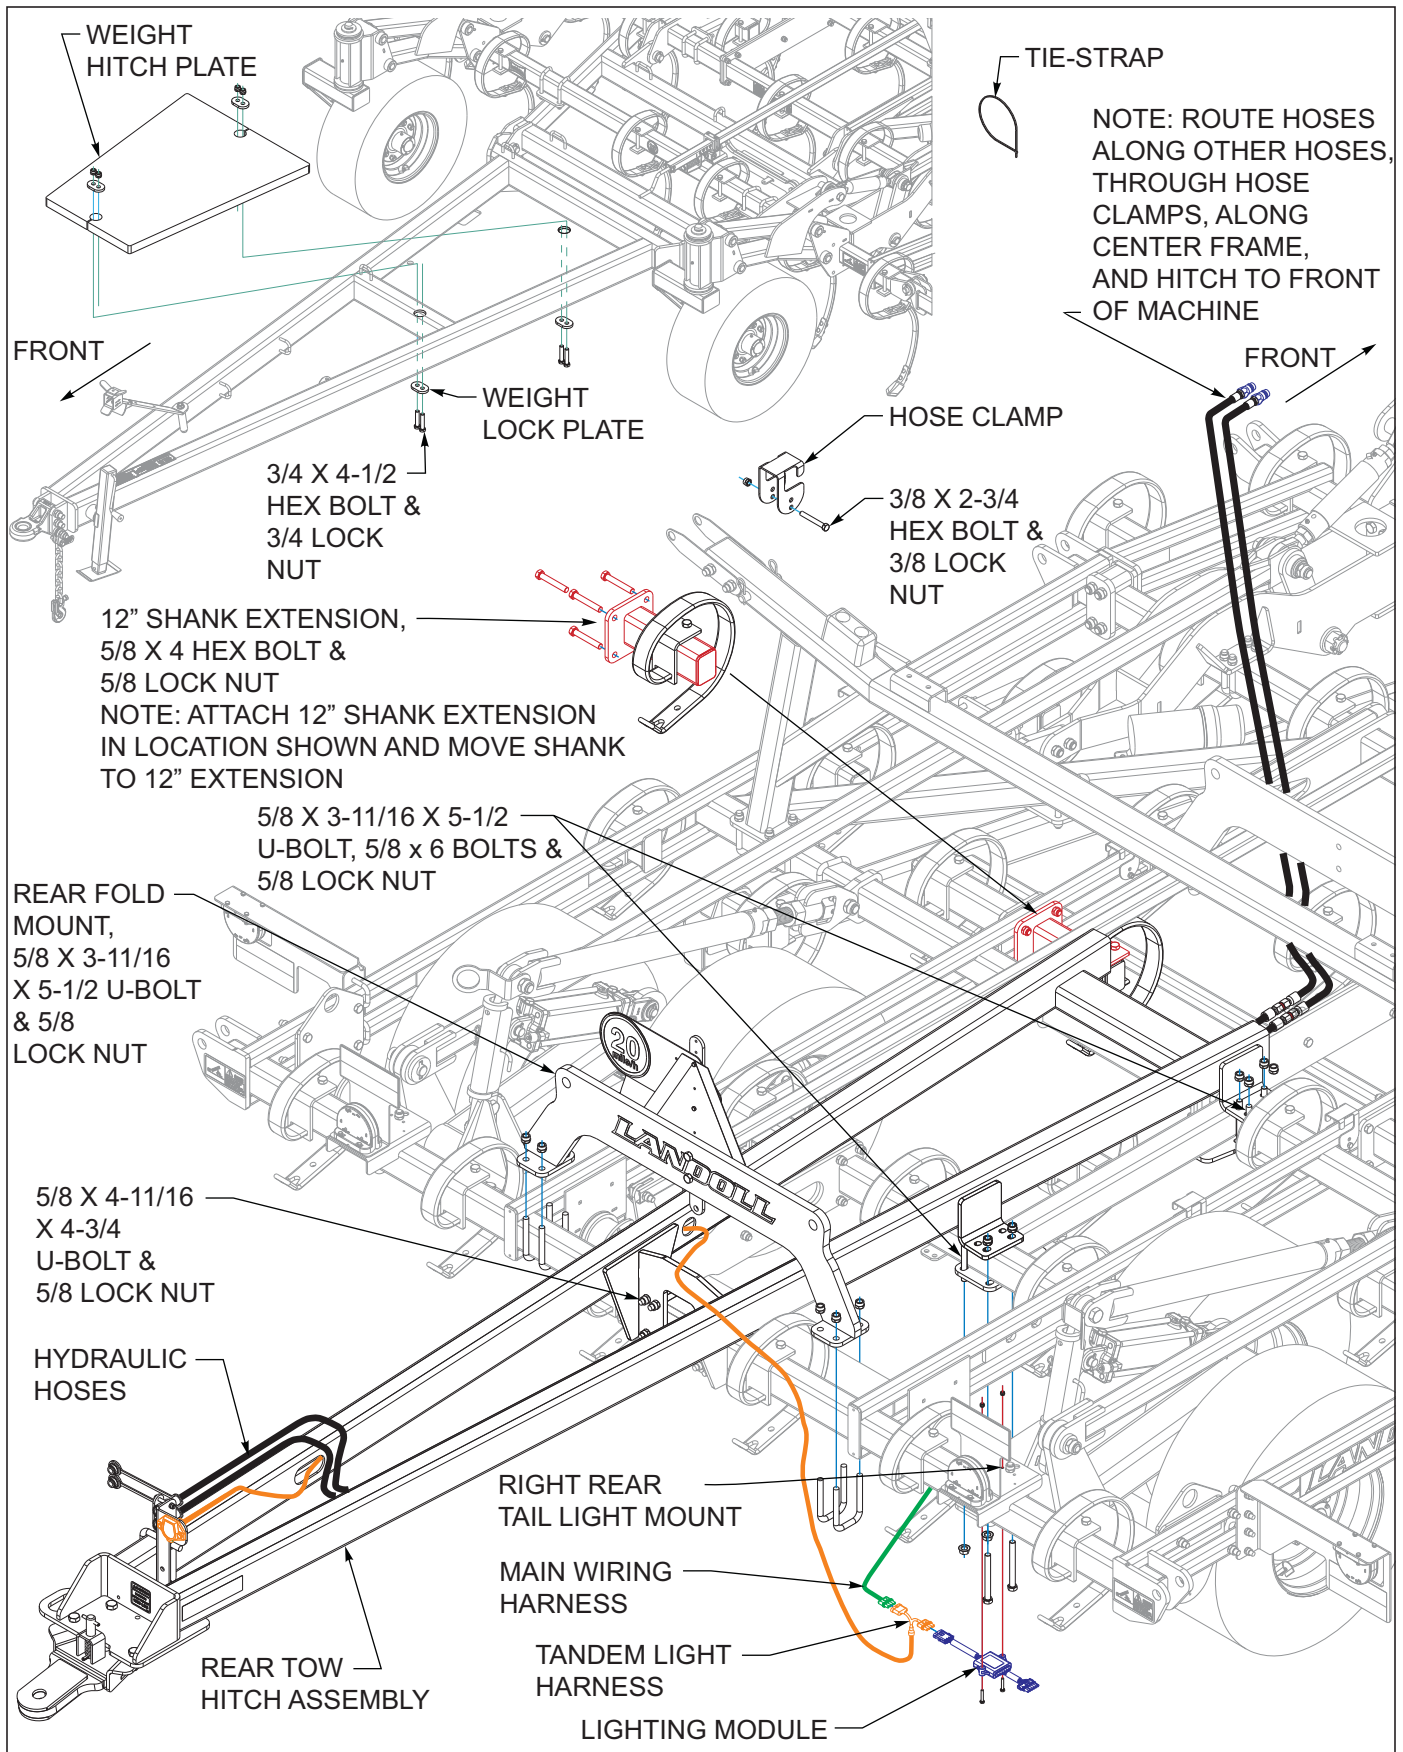
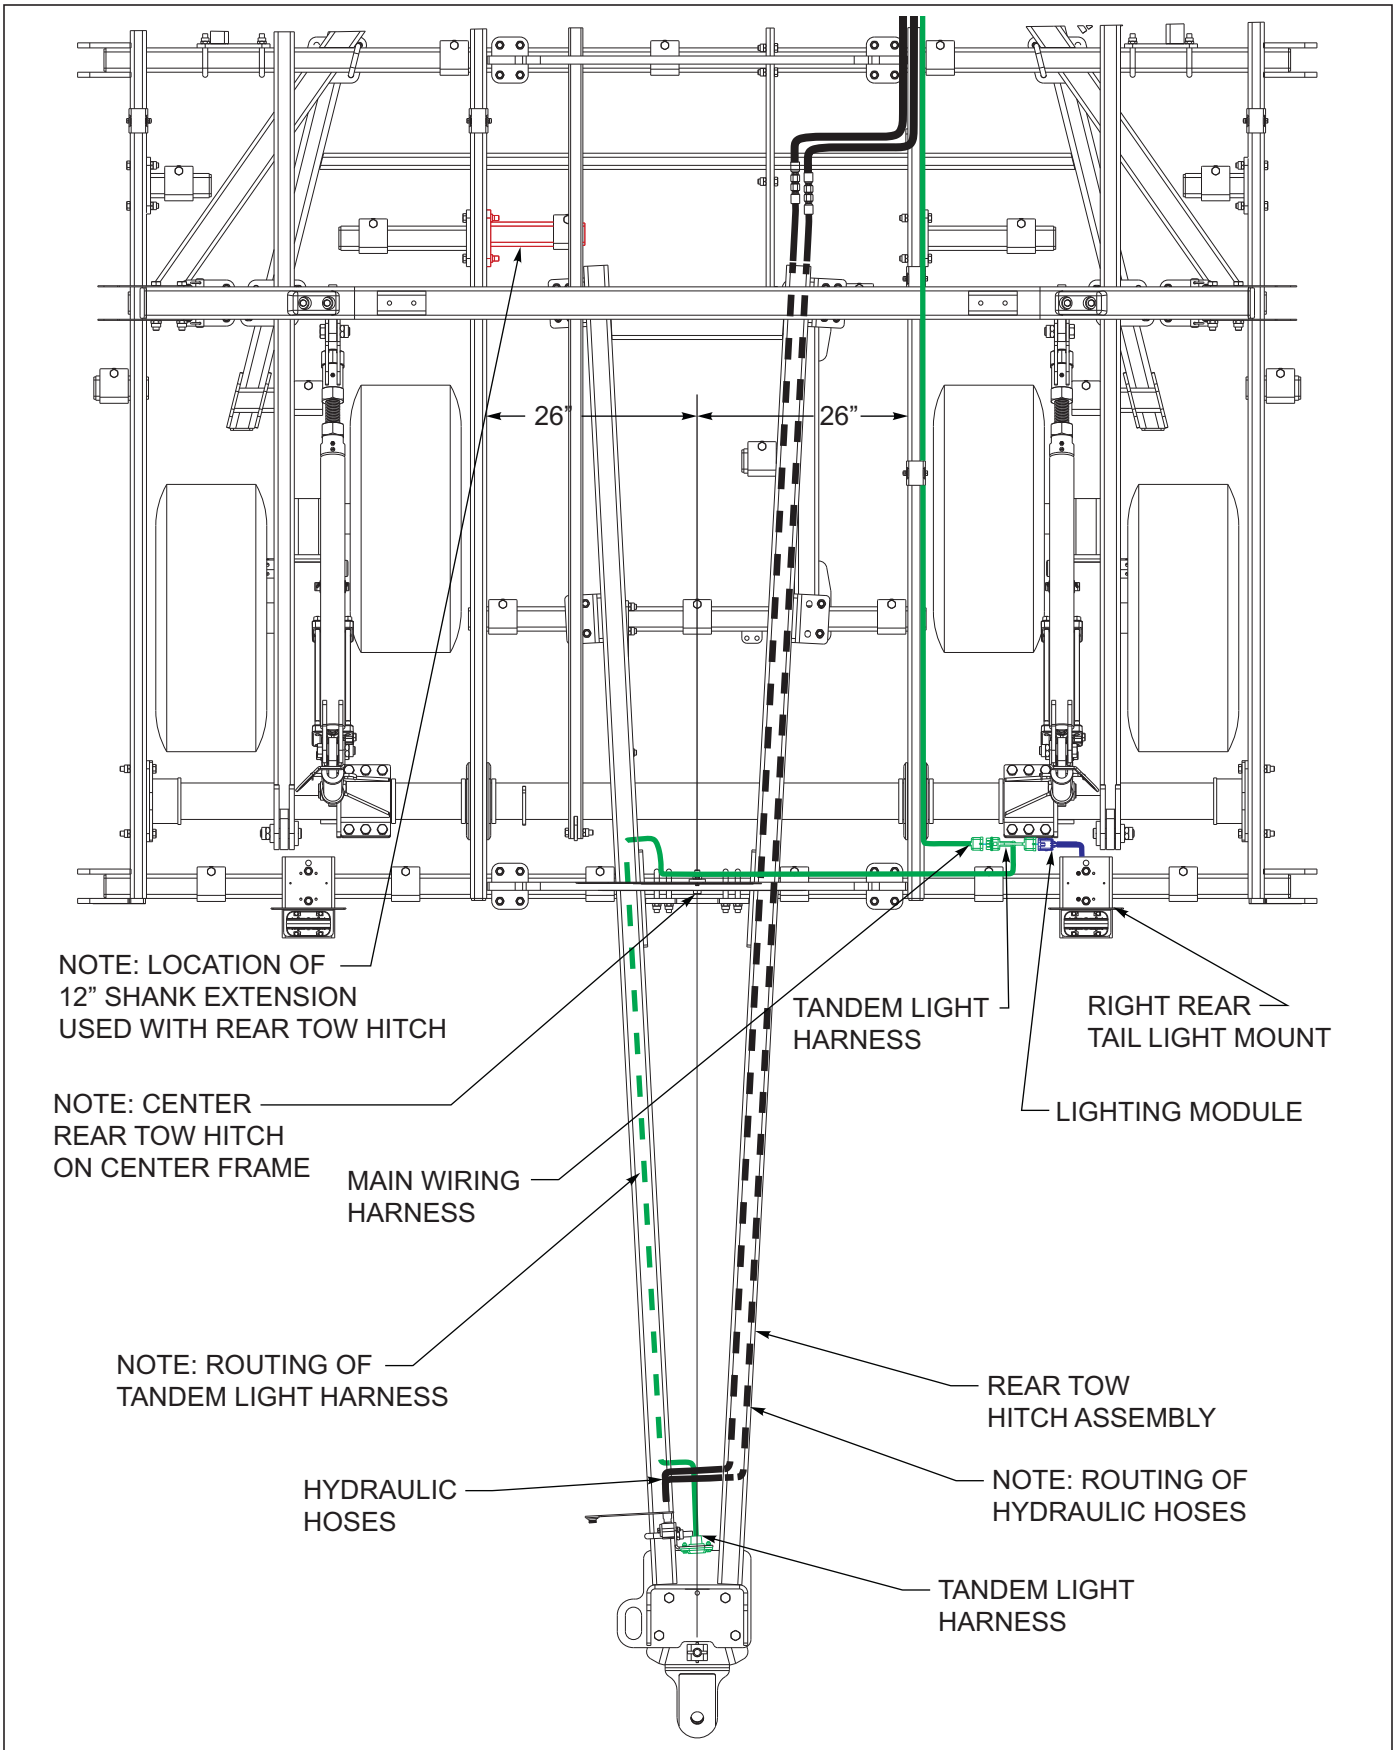

Figure 3-25: Rear Tow Hitch Installation
Figure 3-26: Rear Tow Hitch Layout
2. Install the weight hitch plate on top of the hitch and secure with weight lock plates, 3/4 x 4-1/2 hex bolts and 3/4 lock nuts **See Figures 3-25**.
8. Center the rear tow hitch assembly on center frame **See Figures 3-26**, tighten all u-bolts to secure hitch.
10. Route the tandem light harness connector across the rear frame bar to the right rear tail light. Unplug the existing four-pin main wiring harness from the lighting module. Connect the rear tow hitch harness between the lighting module and the main wiring harness **See Figures 3-25** and **See Figures 3-26** for proper hose and light harness routing.